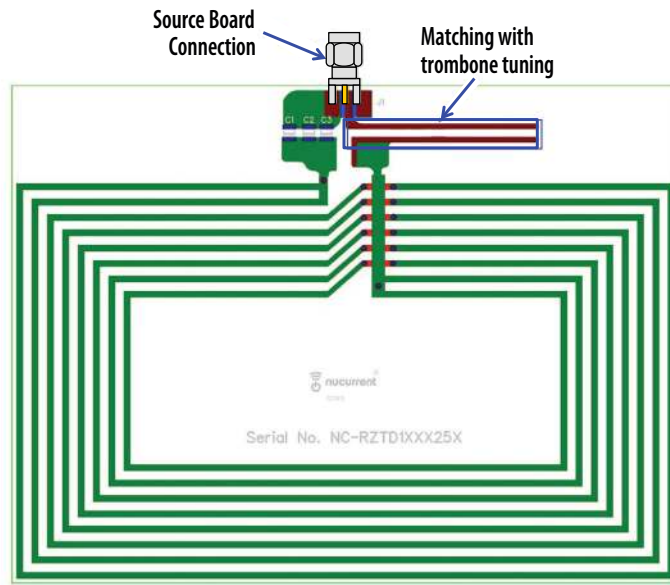

Figure 7: Proper connection for the source coil
2. With power off, connect the main input power supply bus to J1 as shown in Figure 7. Note the polarity of the supply connector.
2. With power off, connect the main input power supply bus to the bottom pin of JP1 and the ground to the ground connection of J1 as shown in Figure 7.